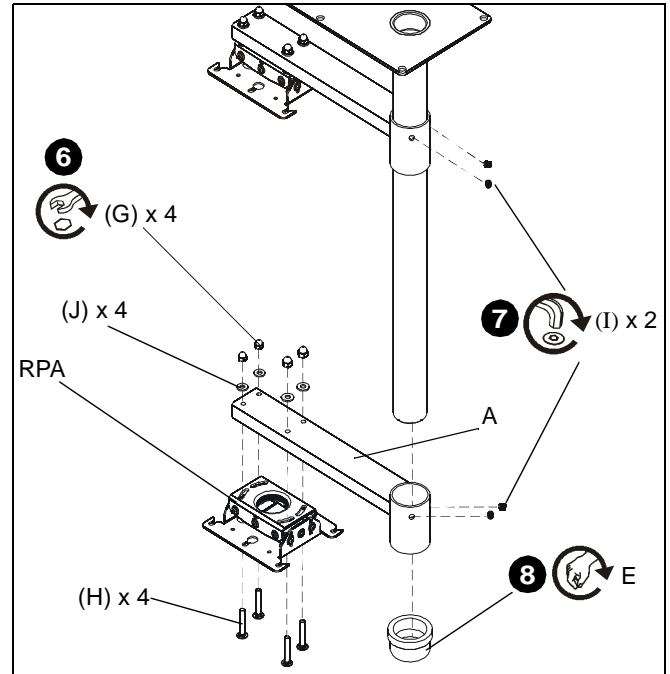

Figure 2
5. Secure NPT pipe to ceiling plate using one 5/16-18x3/8" set screw (I).
6. Attach RPA to projector arm (A) using four 1/4-20 X 1-1/2" carriage bolts (H), four 1/4-20 acorn nuts (G) and 1/4" flat washers (J). (See Figure 2)